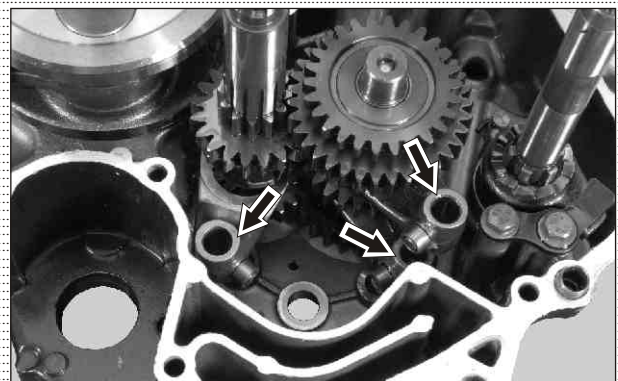

Fig. 3.179
- Assemble fork gear shift no. 1, fork gear shift no. 2 and fork gear shift high speed along with spacer roller gear shift fork pin (3 nos) on their respective position (respective grooves of the gears). (Fig. 3.179)